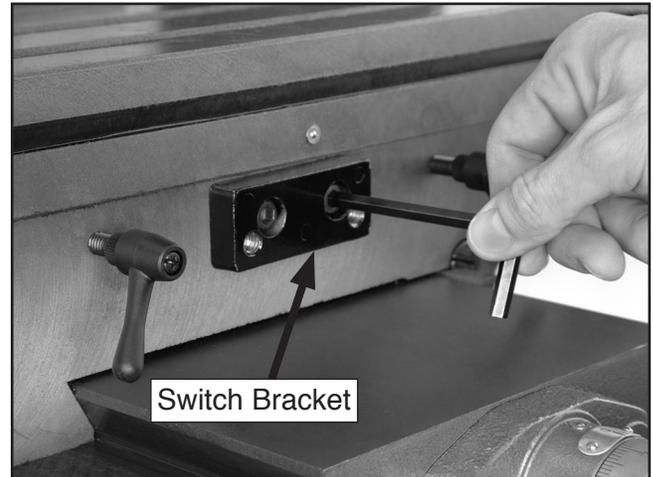

Figure 14. Limit switch bracket.
9. Secure the switch bracket to the front of the Mill/Drill. Use the mounting bolts saved in **Step 8 (Figure 14)**.